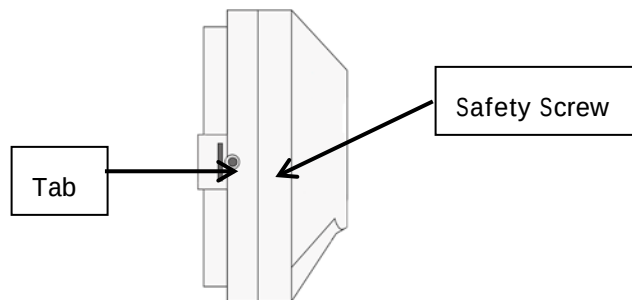

Figure 6: EcoSource Side View
- Step 10 Remove the safety screw from the left side of the thermostat using the hex wrench. See Figure 6.